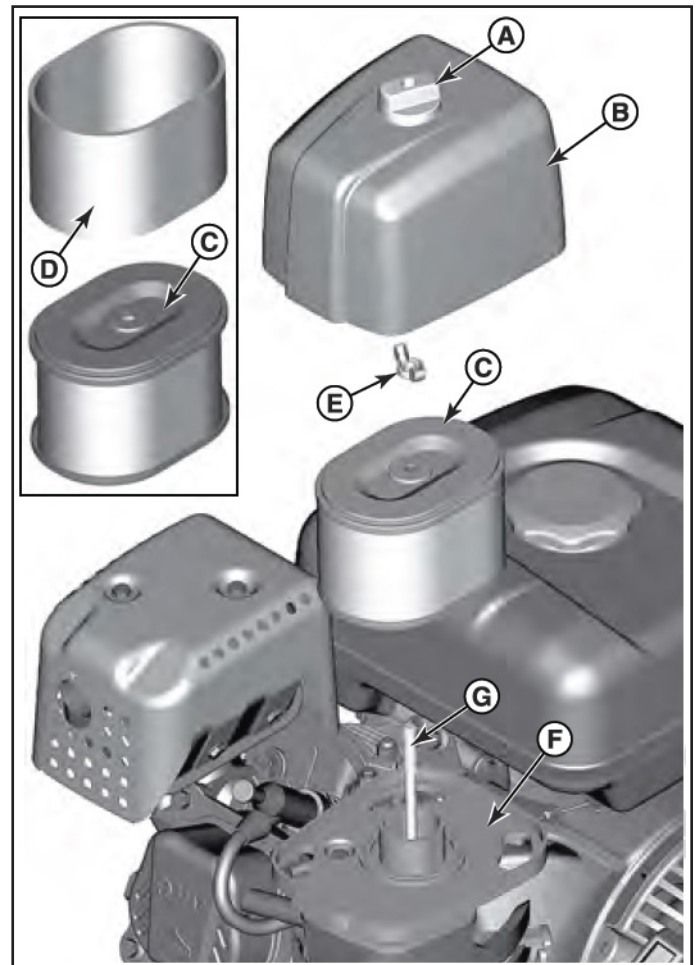

FIGURE 12
- Remove the cover **B** as shown in figure 12.
- To prevent debris from falling into the carburetor, carefully remove the pre-cleaner **D** and filter **C** from the air filter base **F**. See figure 12.
- Gently tap the filter **C** on a hard surface to loosen debris. If the filter is excessively dirty, replace with a new filter. See figure 12.
- Remove the pre-cleaner **D** from the filter **C**. See figure 12.
- Install the filter **C** and pre-cleaner **D** to air filter base **F** and onto stud **G**. Make sure filter is properly assembled to air filter base and secure with fastener **E**. See figure 12.
- Install the cover **B** and secure with fastener **A**. Make sure fastener is tight. See figure 12.